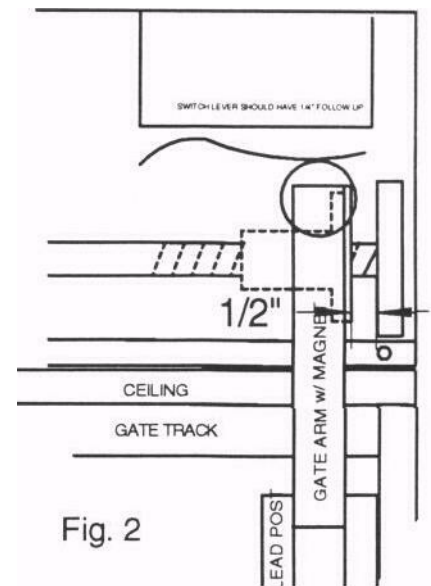

Fig. 2
7. Pull the gate to its fully closed position. Check that the drive nut is about 1/2" away from the closed side pillow block; manually rotate the lead screw if necessary (it will be easier to rotate with the drive O-ring removed). Place the gate arm magnet on the magnet flag; the middle of the magnet should be in the middle of the flag. Check that the gate switch is closed, but still has about 1/4" of follow-up. See Fig 2.